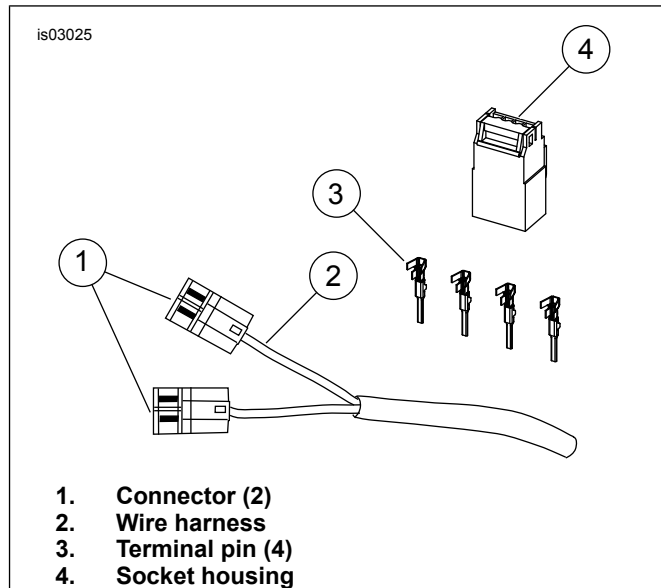
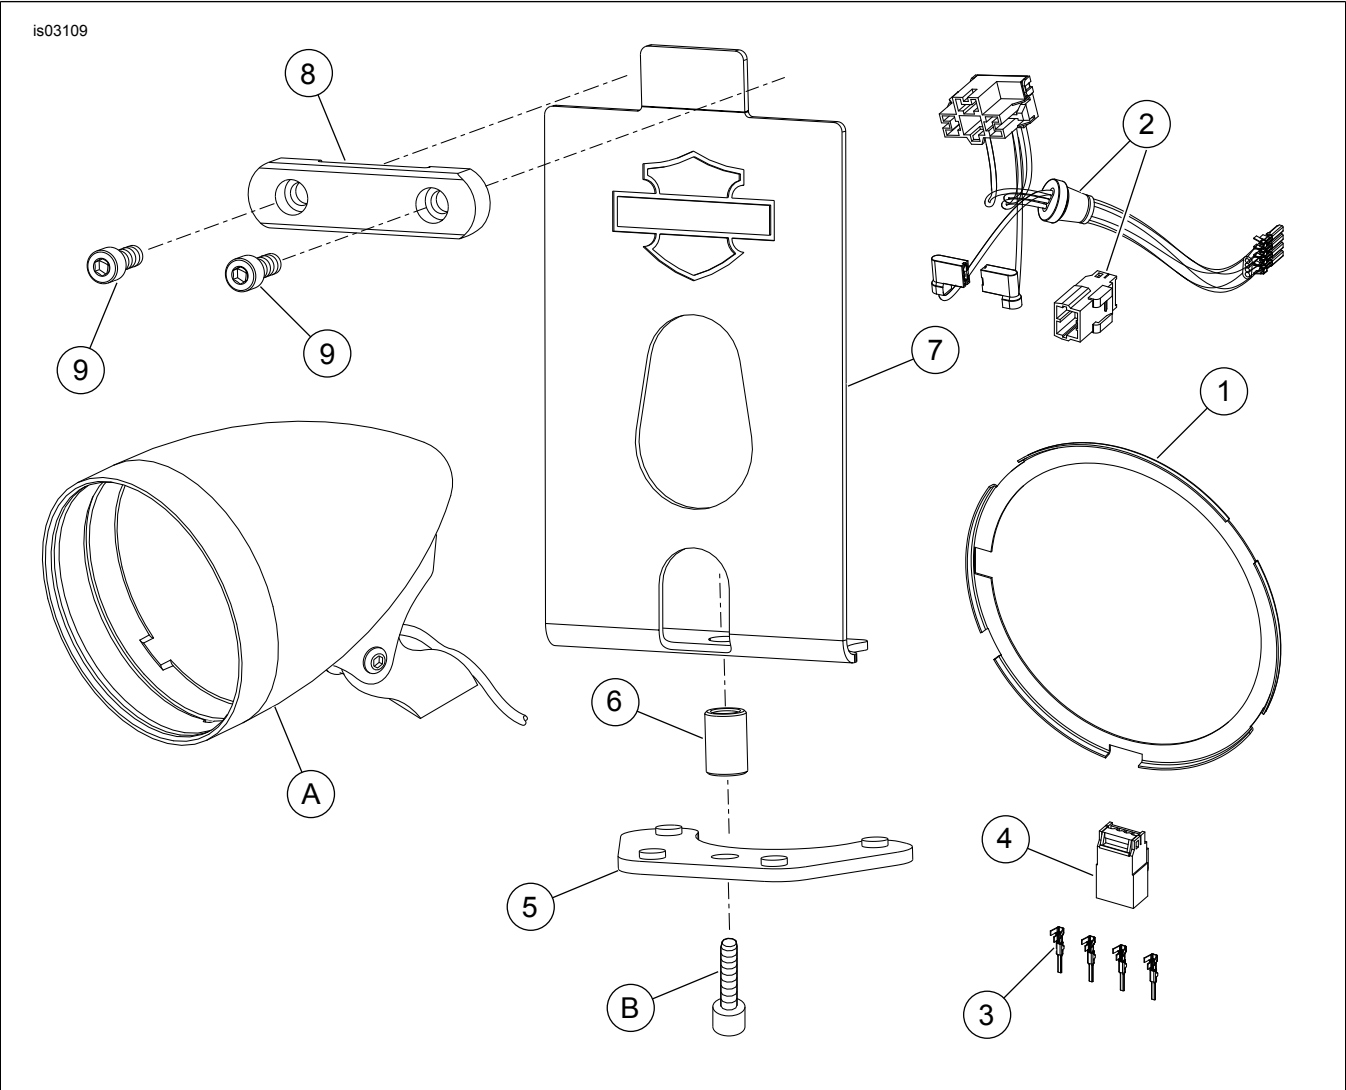

Figure 3. 2004-Earlier VRSCA and VRSCB Headlamp Wire Harness
Figure 6. Service Parts: VRSC Bracket for Billet Headlamp Shell
See Figure 6 and Table 1.
Adapter ring from kit (Figure 6, Item 1) will be used to install billet headlamp assembly on Instruction Sheet-J03018.
- See Figure 3. Cut the two connectors (1) from existing headlamp wire harness (2). Be sure to cut the wires as close to the back of the connector as possible.
- See Figure 6. Route new wire harness (2) through the hole in bottom of the billet headlamp shell (A).
- See Figure 3 and Figure 6. Install terminal pin (3) and socket housing (4) onto new wire harness (Figure 6, Item 2). Refer to MULTILOCK ELECTRICAL CONNECTORS in Service Manual for installing socket/pin terminals.
- See Figure 6. Connect new wire harness (2) to billet headlamp shell (A).
- Route wire harness (2) through hole in bottom of billet headlamp shell (A) before installing socket housing (4) provided in kit.
- See Figure 6. Place headlamp base fastener (B) through bottom mounting plate (5) and spacer (6).
- Position assembled bottom mounting plate and spacer below lower triple clamp (not shown), and thread fastener into billet headlamp base (A).
- Install headlamp mounting plate (7) and triple clamp filler (8). Triple clamp filler must be installed with chamfered edge up.
- Secure triple clamp filler with chrome socket head cap screws (9). Tighten screws to 4.5-7.5 Nm (40-66 **in-lbs**).